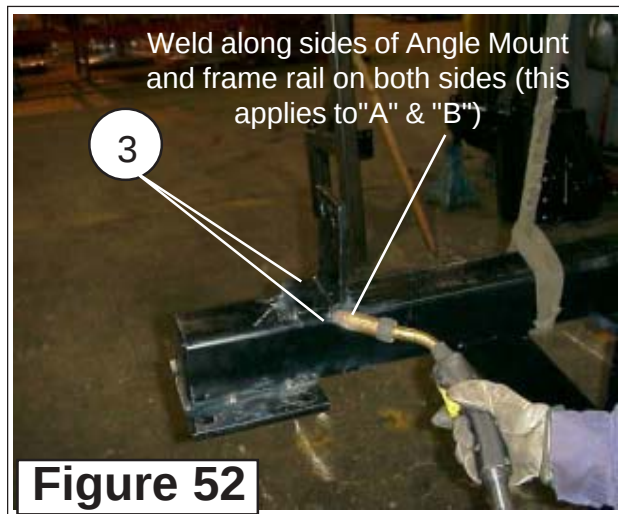
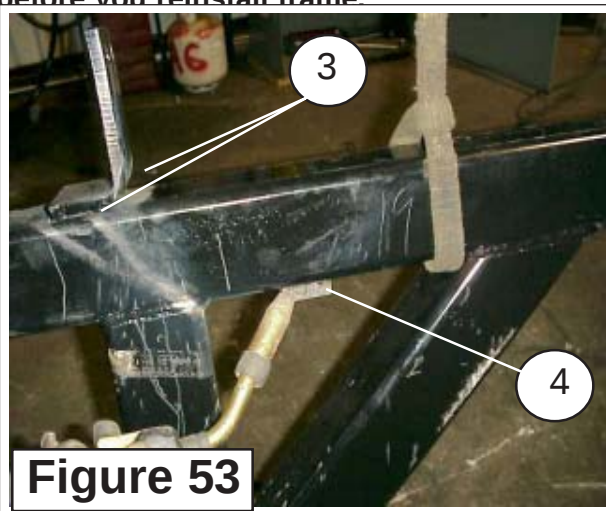

Figure 52
Figure 53
3. Weld Front Angle Mount. Weld the Front Angle Mount to the Frame Rail on the Sides running parallel to the Frame Rail, Not across Frame Rail (See Figure 52 & 58). Weld the Rear Angle Mount to Frame rail the same as the front (See Figure 53).
4. Bar Mounting Strap. Weld these all the way around, first check your measurements for placement. The Bar Mounting Straps are cut and must be placed to where they will line up with the ones that you welded to the High frame mounting tubes earlier. (See Figure 53)